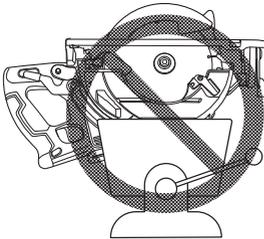

Fig. 4
5. **Never attempt to saw with the circular saw held upside down in a vise.** This is extremely dangerous and can lead to serious accidents. (Fig. 4)